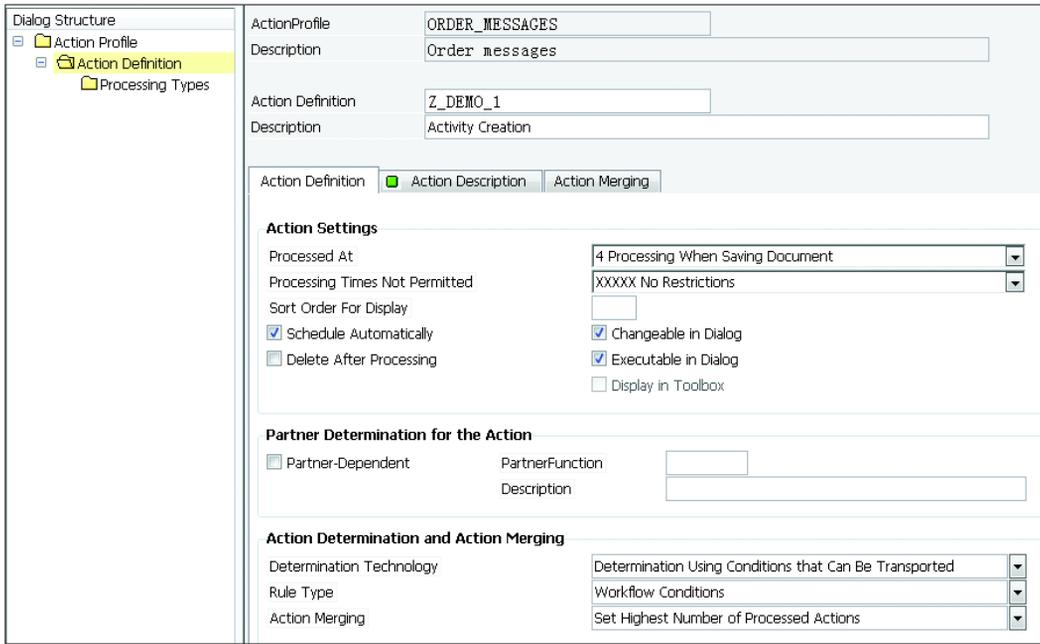

Figure 6.7 Action Definition Z_DEMO_1 – Activity Creation
1. Configure the action to create the activity when the order is being rejected by navigating to **SPRO • CUSTOMER RELATIONSHIP MANAGEMENT • BASIC FUNCTIONS • ACTIONS • ACTIONS IN TRANSACTION • CHANGE ACTIONS AND CONDITIONS • DEFINE ACTION PROFILES AND ACTIONS**. Then, create the action definition for the action profile that is already assigned to the sales order. In this case, the action profile is **ORDER_MESSAGES** (see Figure 6.7).